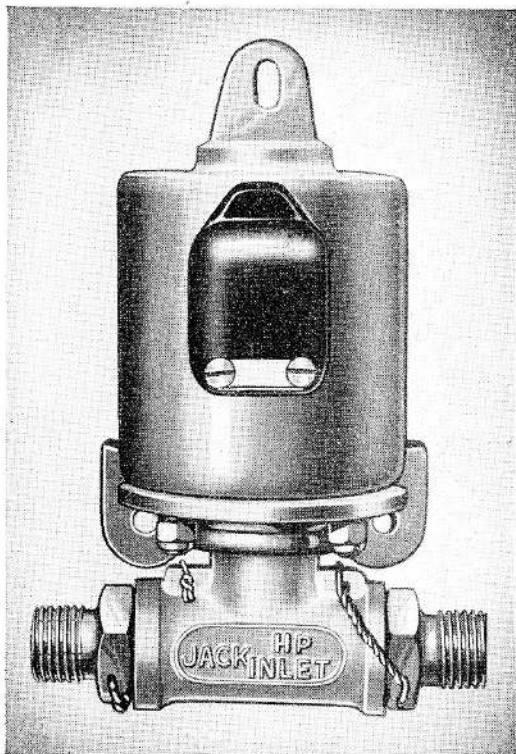

Fig. 1. Electro-pneumatic valve, Type ES
1. The electro-pneumatic valve, Type ES (*fig. 1*) is designed to control the flow of air to and from a single-acting, spring-return, pneumatic jack. It is particularly suitable for the remote control of one or more jacks, either by a manual switch, thermostat, pressure switch, or other automatic means. Details of the complete range of these valves are given under Leading Particulars; the differences between the types lie primarily in the operating voltage and the size of the screwed connections.